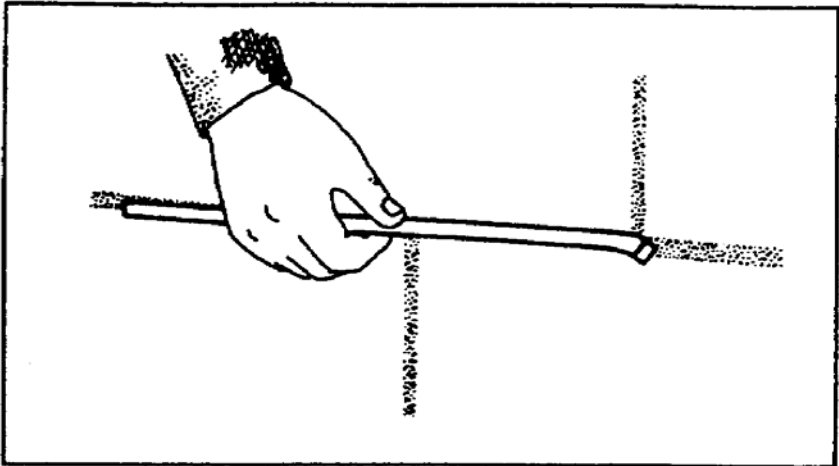

Figure 2-21. Tooling horizontal joints
a. Sled Runner. Use a sled-runner jointer to tool horizontal joint (Figure 2-21).